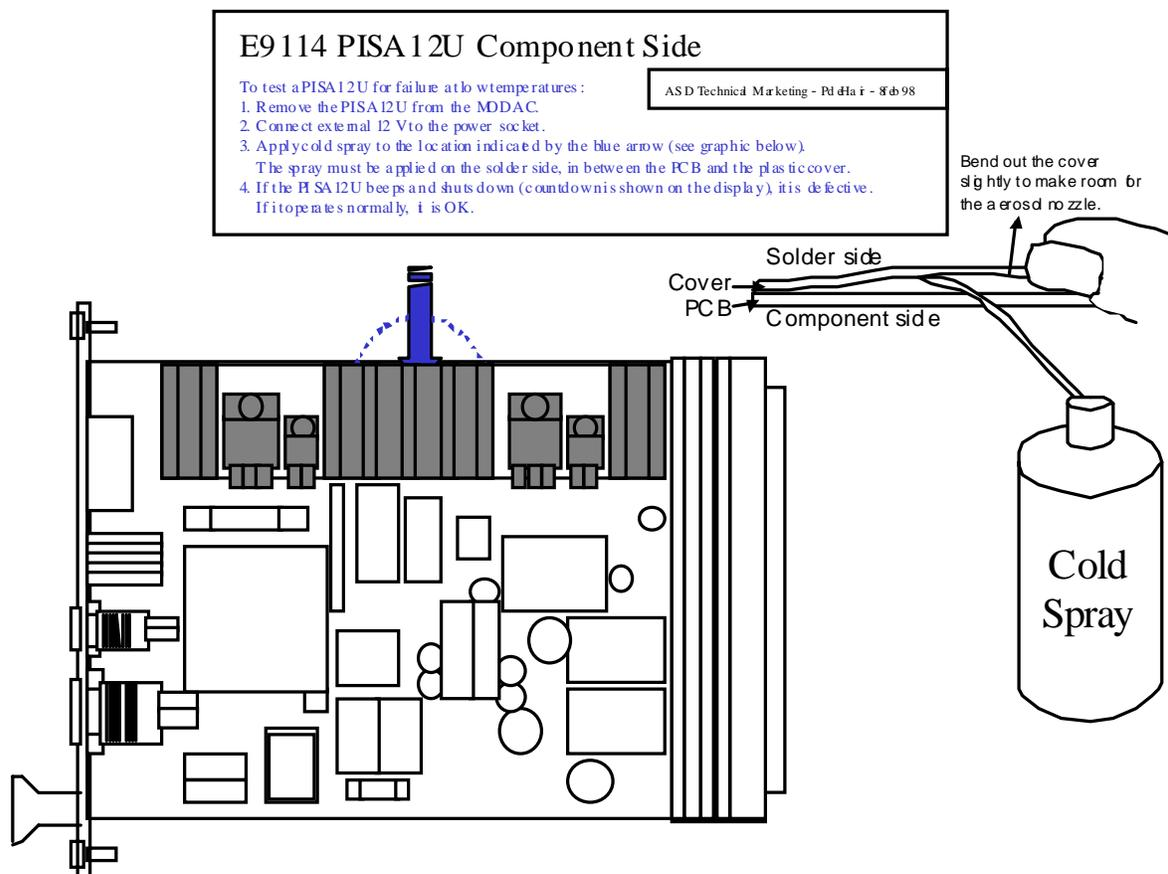

Figure 2. PISA12U Temperature test.
3. Locate the cooling ribs marked with the arrow in Figure 2.